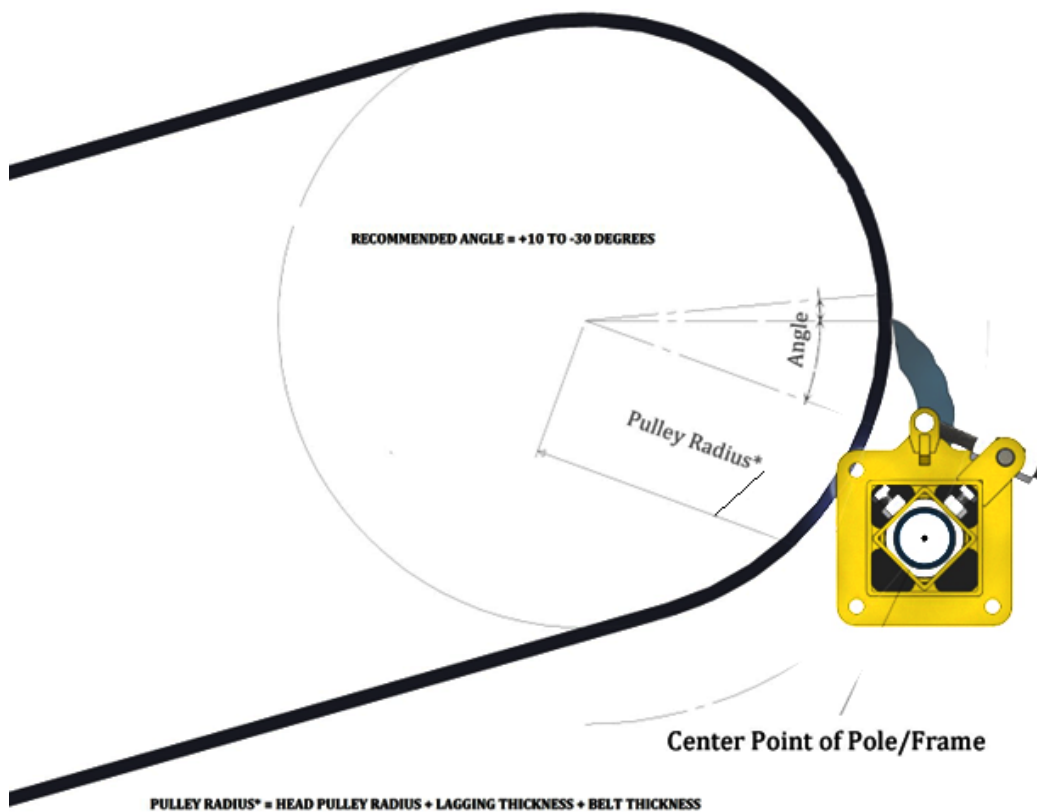

Figure 4
1. Locate and drill holes for mounting bracket. Use "H" from Table 1 and the dimensions shown in Figures 4 and 5.
As previously stated, an alternate lower blade tip and tensioner frame location may be needed. For these locations the Arc length may need to be scribed lower than the 8.36" dimension to allow tensioner mounting. For interferences with flanges, sensors, floor grating, or other obstructions preventing the cleaner from being located in a position other than the blade tip being at the "3 o'clock" position, the installation location can be changed. The center point of the Pole and Frame can be lower than the specified 8.36" as needed using Table 3. Additionally, the angle the tip of the cleaner makes as compared with the "3 o'clock position should never be more than 25-30 degrees. Figure 4 shows the relationship between the Pulley Radius, Arc Length, and Angle.
Figure 4 shows the relationship of the frame center point when the primary cleaner blade tip is in the 3 o'clock position.